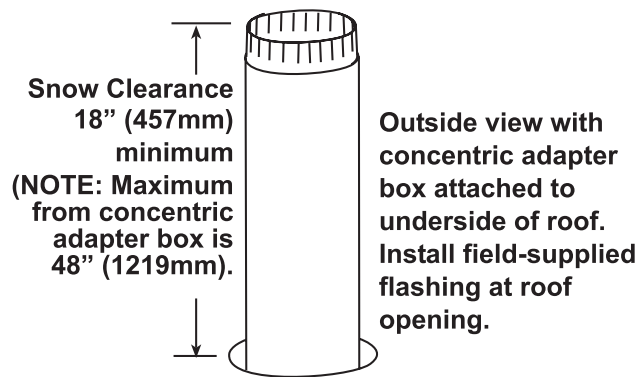

Figure 20. Combustion Air Pipe Through Roof
- a. Insert combustion air pipe through roof as shown in **Figure 20**.